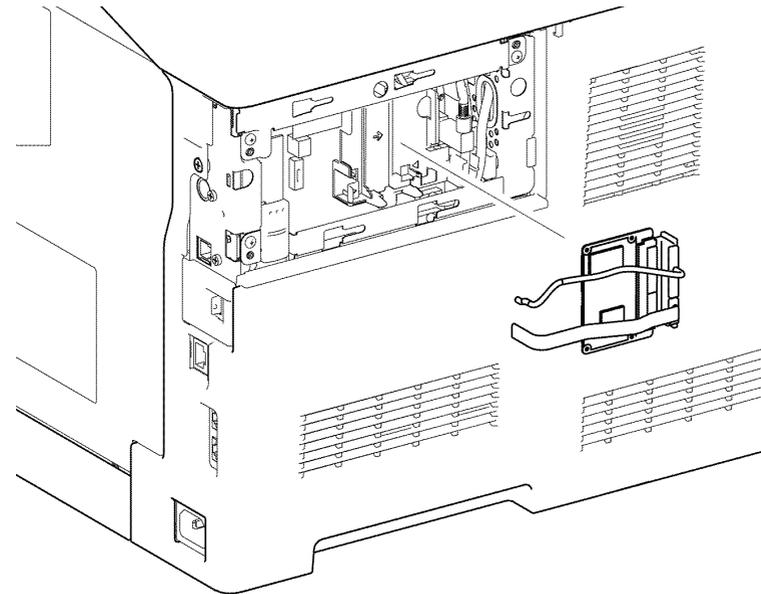

Figure 1 HDD removal
- Disconnect P/J302 and P/J310, then remove the option HDD, Figure 1.